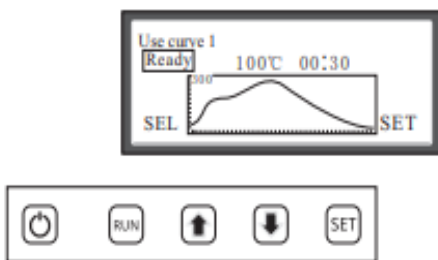
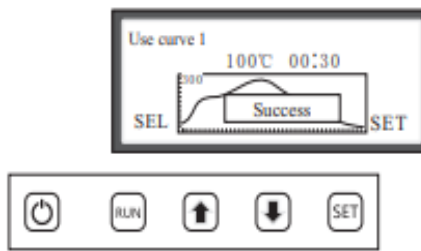

Fig. 18
Fig. 19
②. After selecting “Lead Soldering 1”, press “SET” button to conduct setting as shown in Fig. 18. Press “SET” button to switch “Heating Zone”, “TEMPERATURE” and “TIME”. Press “PAGE UP” button and “PAGE DOWN” button to conduct the setting of “TEMPERATURE” and “TIME”. Press “RUN” button to exit as shown in Fig. 15. Press “RUN” button again to select as shown in Fig. 19. After saving the preset is successful, it will automatically switch to main interface of “PRESET”, “PRODUCTION” and “CONSTANT TEMPERATURE”, as shown in Fig. 14. After entering “PRODUCTION” interface, the time and temperature values are preset values.